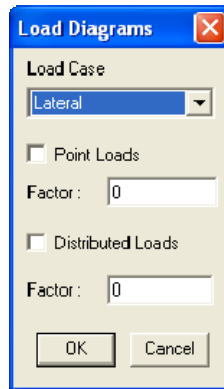

Figure 3-49 Load Diagrams dialog box
- From the Show menu, select Load Diagrams. The dialog box of Figure 3-49 appears.